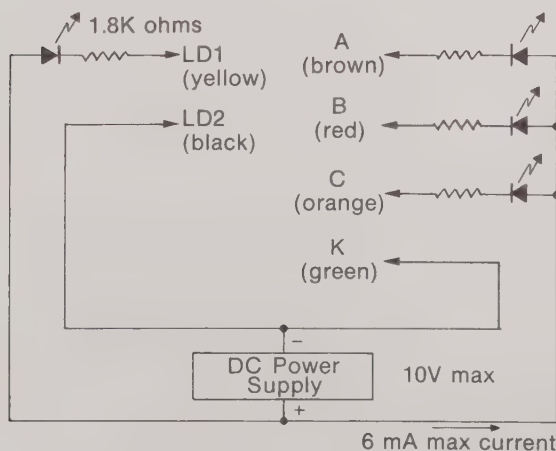
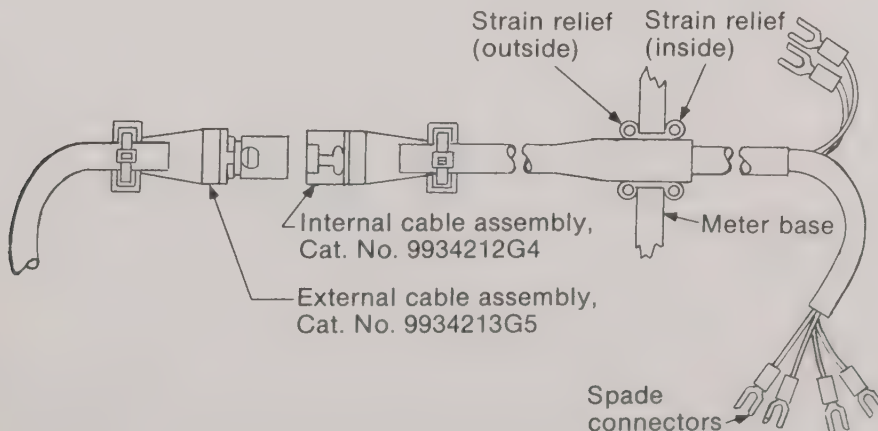

Fig. 14. Test circuit for load control and rate indicator outputs.
Fig. 15. Internal and external cable assemblies.
Both the primary timekeeping (60 Hz line frequency-based) and the power carryover secondary timekeeping (crystal-based) should be checked using the register load control switch. When so doing, use the test circuitry for the load control switch as shown in Fig. 14. Use a programmer with a convenient program that will switch the load control switch on at least once per day.
Each cable has six leads for connection to the register terminal boards, as shown in Fig. 15. Six leads are always supplied and connected, even though in some cases only two will be used to provide output from a single output. When ordering a time-of-use meter with a TM-80 register, or a register separately, the number of rate indicator outputs (0, 1, 2 or 3) and the combinations desired (A, AB or ABC) must be specified, since each is a built-in feature on the power supply board and will be supplied as ordered. These combinations are shown on Fig. 14. Also, specify the load control, if desired.
In order to apply the load control and rate indicator outputs, cable assemblies shown in Fig. 15 must be installed on the watthour meter to electrically connect to the switches. The following procedure should be used when installing:
2. Insert the internal cable assembly -- spade connectors first -- through the hole from the outside in. Pull through until the cable extends through the meter base, as shown on Fig. 15.